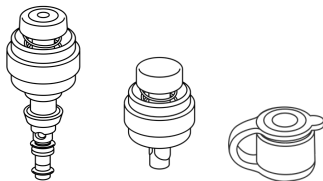

Figure 2
12. If using the 3-piece kit (See Figure 2), attach the **biopsy valve**.